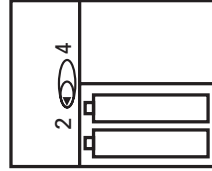

Figure 1
2. Insert two or four AA or AAA rechargeable NiMH or NiCd batteries in the battery compartment. If charging two batteries, insert them on the left side of the battery compartment. See Figure 1.